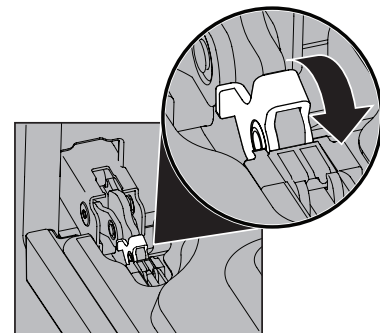

Figure 27: Door Hinge Lock
2. Pull up the lock located on each hinge support toward front of the oven until the lock stops. You may have to apply a little upward pressure on the lock to pull it up (Figure 27).
4. Push the door hinge locks up toward and into the oven frame on both left and right oven door hinges to the locked position (Figure 27).